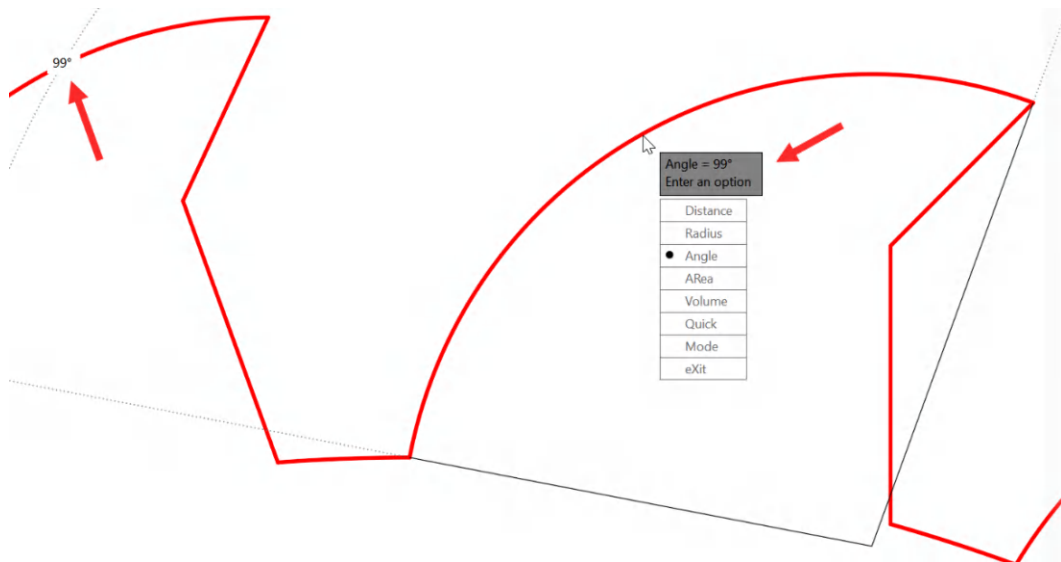

Figure 6.13: A measured angle with the Measure menu displayed
3. You can select an arc, circle, line, or specify vertices at the prompt that appears. Select the large arc on a saw tooth. You will see the angle displayed (**99°**), as shown in *Figure 6.13*.